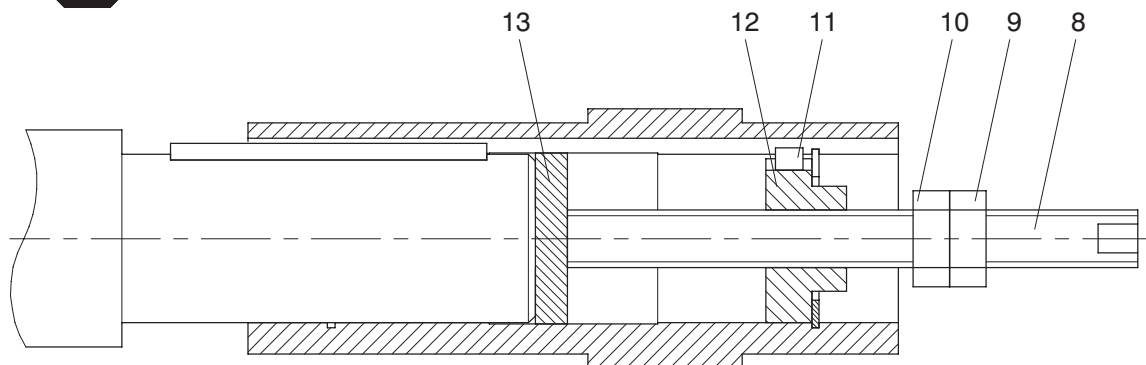

Figure 6.6.2: Remove hollow shaft and parallel key
- 3) When the rust solvent has sufficiently worked in, pull off the gear unit, using the device, see figure 6.6.2 "Remove hollow shaft and parallel key" .